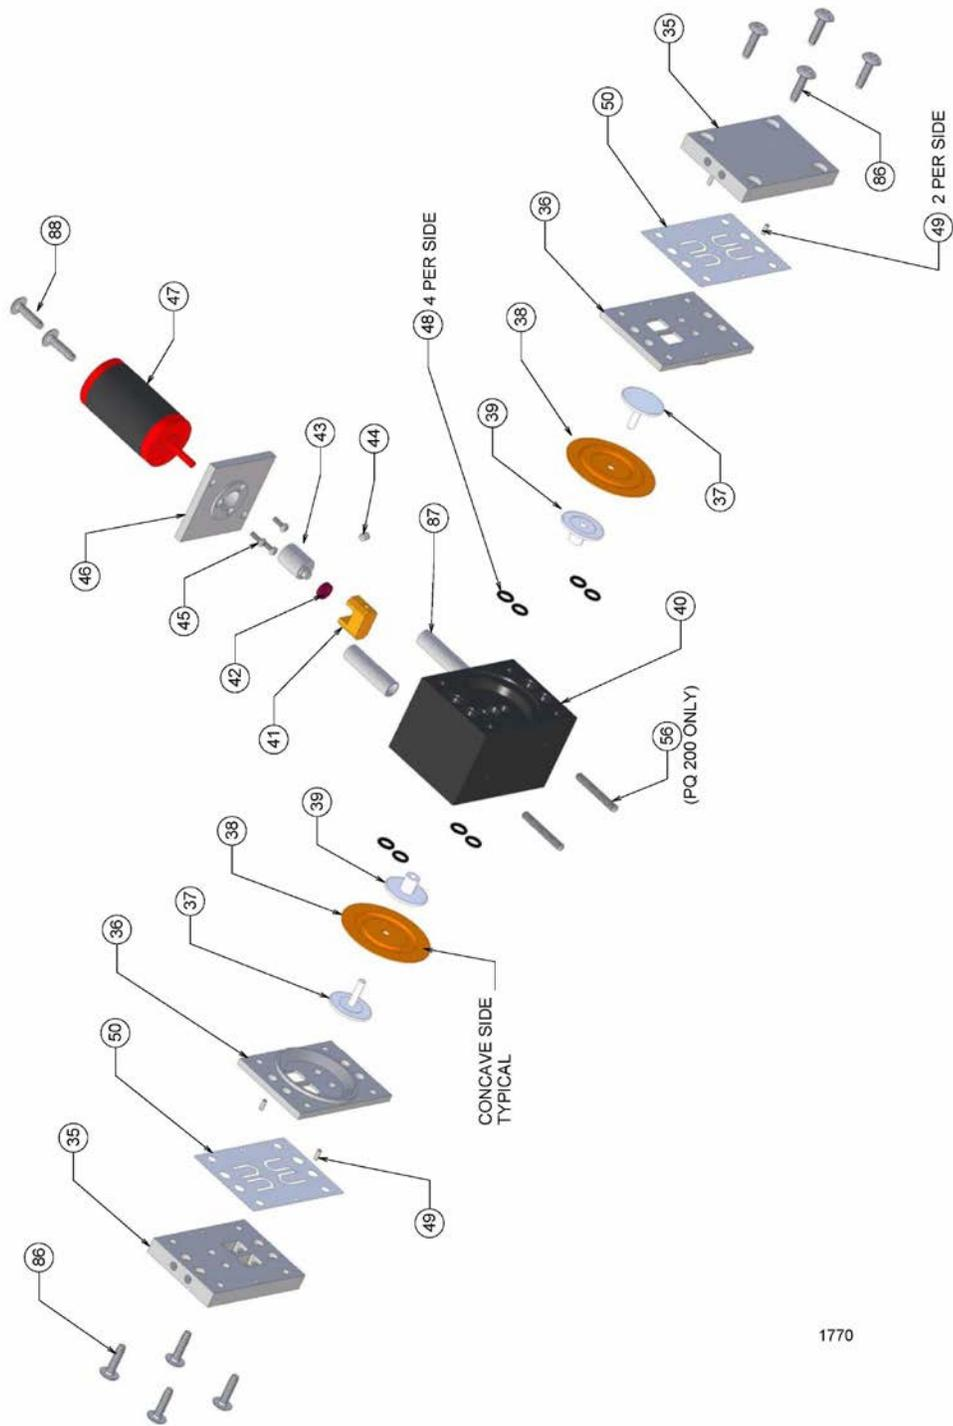

Figure 1 – Exploded Diagram of Pump
Note: In working on the pump unit, detail numbers refer to Figure 1 and Table 1.
Step 4-Required Before beginning valve disassembly, it is important to note that it is possible to mis-assemble this section so that the pump will *fight itself* and little or no air will be pumped. This can be avoided if the alignment of parts shown in Figure 1 is followed exactly. *A simpler procedure is to scribe a line, free hand, across the entire face of the pump body marking parts 35, 36 and 40.* By this procedure, it will be impossible to commit a misalignment error if the scribe marks are exactly aligned. Do not scribe the face containing the motor nor the mounting studs. This procedure is commonly used in machine assembly and is known as applying a *witness mark*.
Step 5-Required Starting on either side of the pump remove 4 screws (86) from the valve upper plate (35) and lift off and set aside. The valve plate alignment pins (locating pins) (49) are pressed into the plate. Do not attempt to remove them. Carefully remove the valve (50) which may be lightly adhered to the upper or lower plate. Be extremely careful as this component is only 0.001 inch thick. Set aside for inspection. Next remove the valve lower plate (36). This component is usually a tight fit and a strong thumbnail or thin knife blade may be required. Set aside, taking care to remove and set aside the 4 "O" rings which have now become visible. Repeat the same procedure on the other side of the pump.
Step 9-Required If a new or used convoluted diaphragm is being installed has a preferential side. If a used diaphragm is being re-installed it will be curved. Insert the diaphragm retainer (37) into the diaphragm (38) and slide the diaphragm retainer bushing (39) over the diaphragm retainer shaft. Reference Figure 1 inset for the direction of the convolution. Seize the follower yoke with a pair of long nose pliers and insert it through the drive hole in the pump housing (40). Align the threaded hole in the yoke, such that the diaphragm assembly may be inserted through its guide hole in the pump body and screwed into the yoke. Grasp the diaphragm retainer between the thumb and forefinger and rotate clockwise two turns. The diaphragm will be lying on top of the pump body. Leave it that way, for the moment. Discard the long nose pliers. Prepare the opposite diaphragm assembly and screw it into the yoke two turns, holding each assembly between the thumb and forefinger of each hand. The diaphragms may now be inserted into their recess. The edges of the disks are to be tucked into the recess provided in the pump body (40). Looking through the drive hole align the yoke, by eye so that you are looking into the bearing drive recess and align it such that it will receive the eccentric bearing and is parallel to the pump sides and square to the face. Now complete tightening the loose diaphragm retainers to the yoke and check alignment.